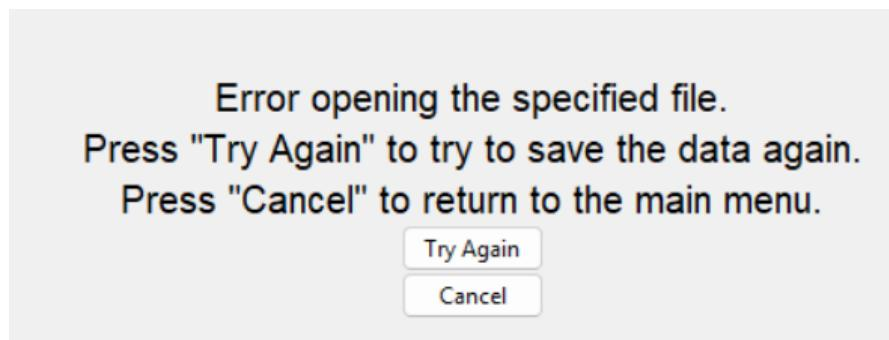

Figure 3.27 - Open File Error Message (TS)
3b: If the file could not be read or “Cancel” was pressed, the error message in figure 3.27 will be displayed. Click “Try Again” to return to step 2 or “Cancel” to return to the main menu (TS).